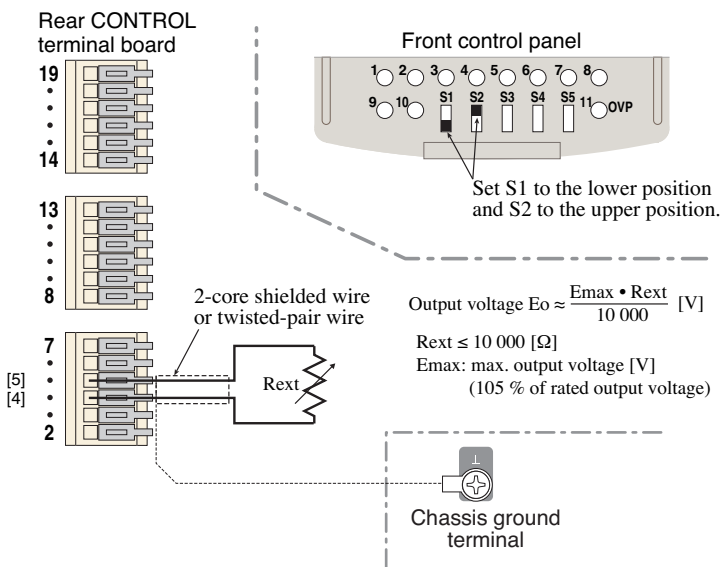

Fig.4-8 Connection and setup for output voltage control using external resistor
3. Set the control switches S1 and S2 as shown in Fig.4-8.
4. Connect an external resistor across the control terminals [4] and [5] as shown in Fig.4-8.